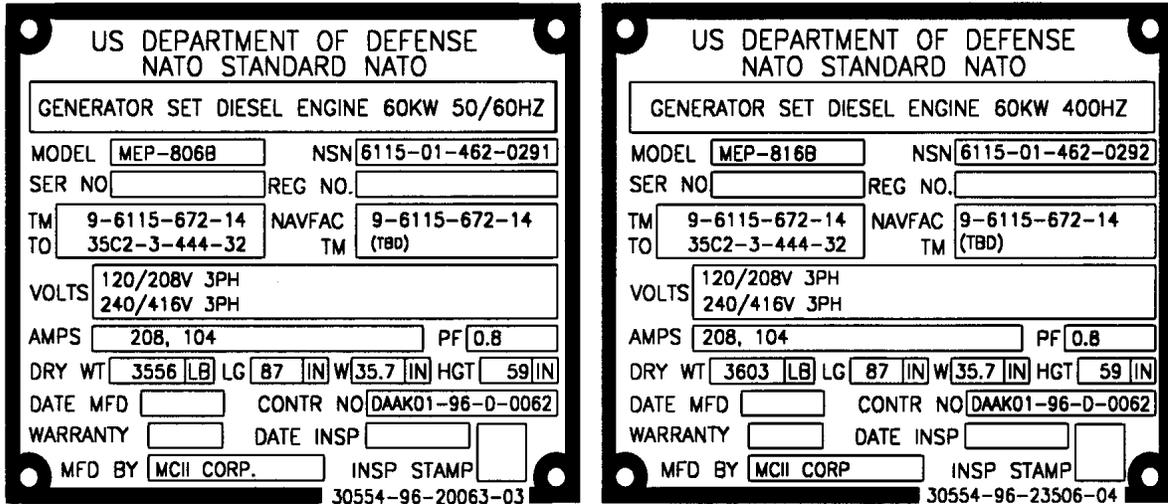

FIGURE 1. IDENTIFICATION PLATE, MEP 806-B AND MEP 816-B
- e. This TB provides information on manufacturer’s warranties for generator set components. The warranty period begins on the date of generator shipment to the government, as defined by the warranty date on the generator set data plate (See Figure 1, Identification Plate).
- g. If you have difficulty with the warranty process or any questions, please contact your local CECOM LAR or the CECOM Generator Branch, DSN: 992-1313, (732) 532-1313.